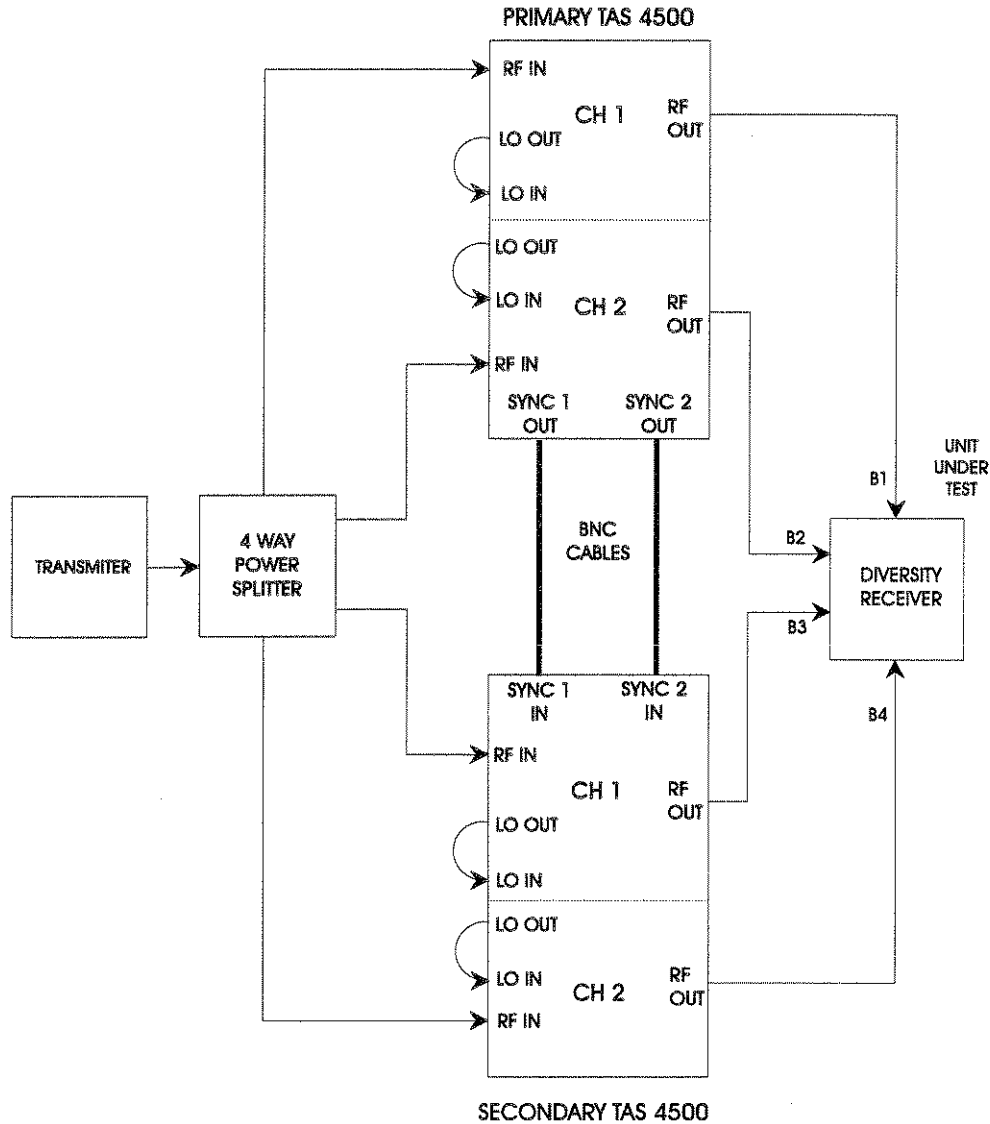

Figure 1-7. 4 Branch Diversity Configuration
TAS 4500 units that are equipped with the factory installed 4 Branch Diversity test feature may be easily used in a 12 or 24 path single channel setup that is configured as 4 branches (with up to 6 paths in each branch). In this configuration a RF transmitter is connected to the 4 channel (branch) inputs provided by the two 4500 units with a 1 to 4 power splitter as shown in Figure 1-7. Each one of the outputs from these channels provide the input signal to one of the 4 available ports of a 4 branch diversity receiver. The top 4500 unit shown in Figure 1-7 is to be configured as the primary unit and provides branches 1 and 2. While the lower 4500 unit is configured as the secondary unit and provides branches 3 and 4. The typical configuration requirements for the primary and secondary units are defined below.
1. For each 4500, install a short cable from the N type connector labeled "CHANNEL 1 LO OUT" to the "CHANNEL 1 LO IN" connector on the front panel of the TAS 4500 shown in Figure 1-7.